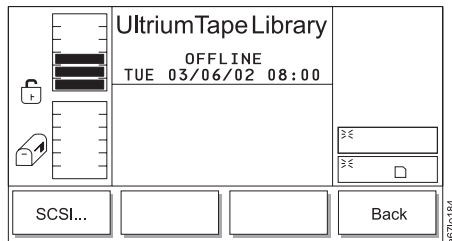

Figure 4-47. Drives Submenu
2. Press the button below the **Drives** softkey. The Drives Submenu displays (see Figure 4-47).